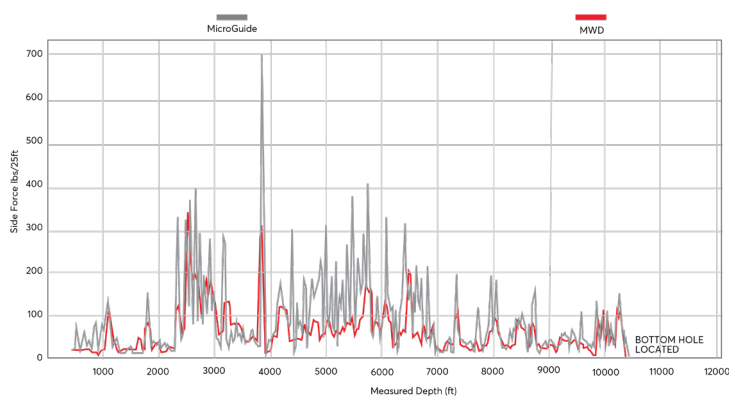

Fig. 1—The MicroGuide logs indicated that there was tortuosity throughout the well that had been undetected by the original MWD surveys.
- The MicroGuide logs revealed previously unseen tortuosity from approximately 2,400 to 6,500 ft (Fig. 1), allowing the operator to place the ESP in an optimized location downhole. Ongoing monitoring of the well has shown that the operator has eliminated any premature failures.